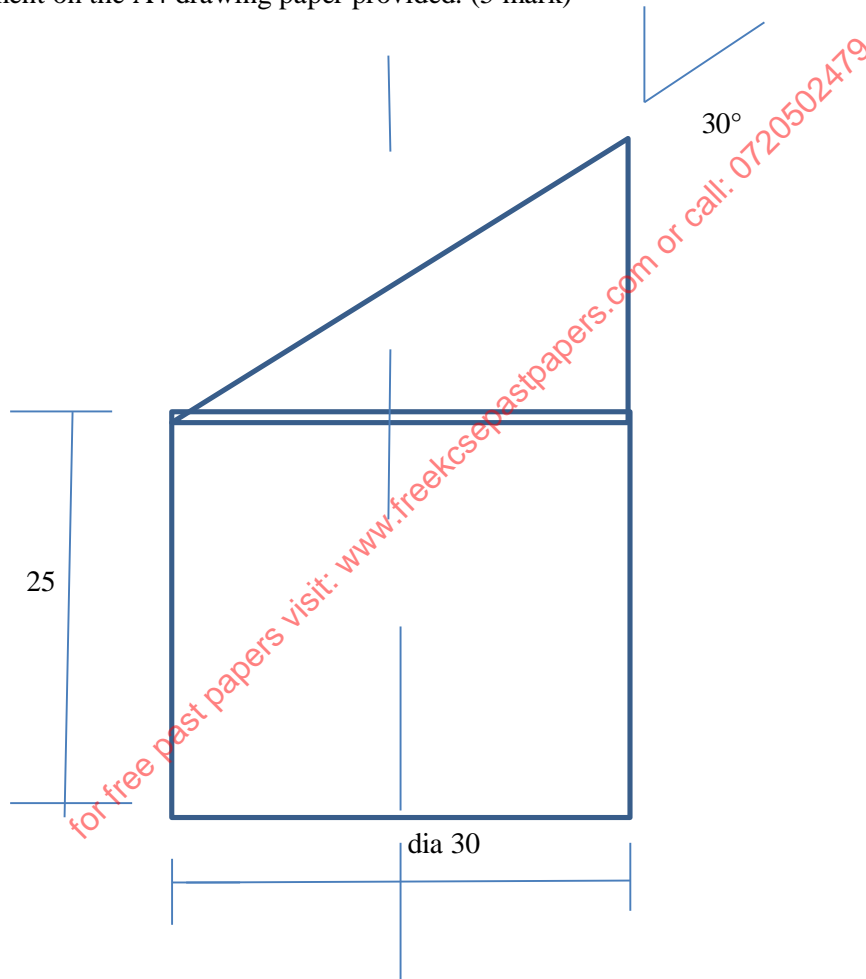

figure 2
10. Figure 2 shows a cylinder that has been truncated at 30° as shown below. Draw its surface development on the A4 drawing paper provided. (5 mark)